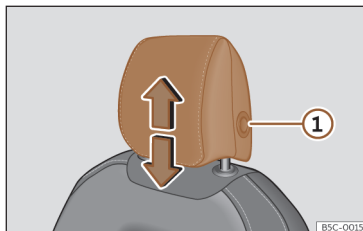
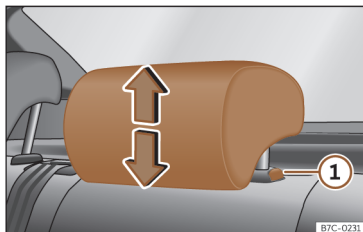

Fig. 104 Front seat: headrest adjustment.
Fig. 105 Rear headrest: headrest adjustment.
- Grab the sides of the headrests with both hands and push upwards to the desired position. To lower it, repeat the same action, pressing the ①»» Fig. 104 »» Fig. 105 button on the side.